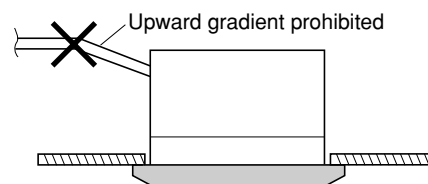

Fig. 3-57
- Do not install the pipe with an upward gradient from the connection port. This will cause the drain water to flow backward and leak when the unit is not operating. (Fig. 3-57)